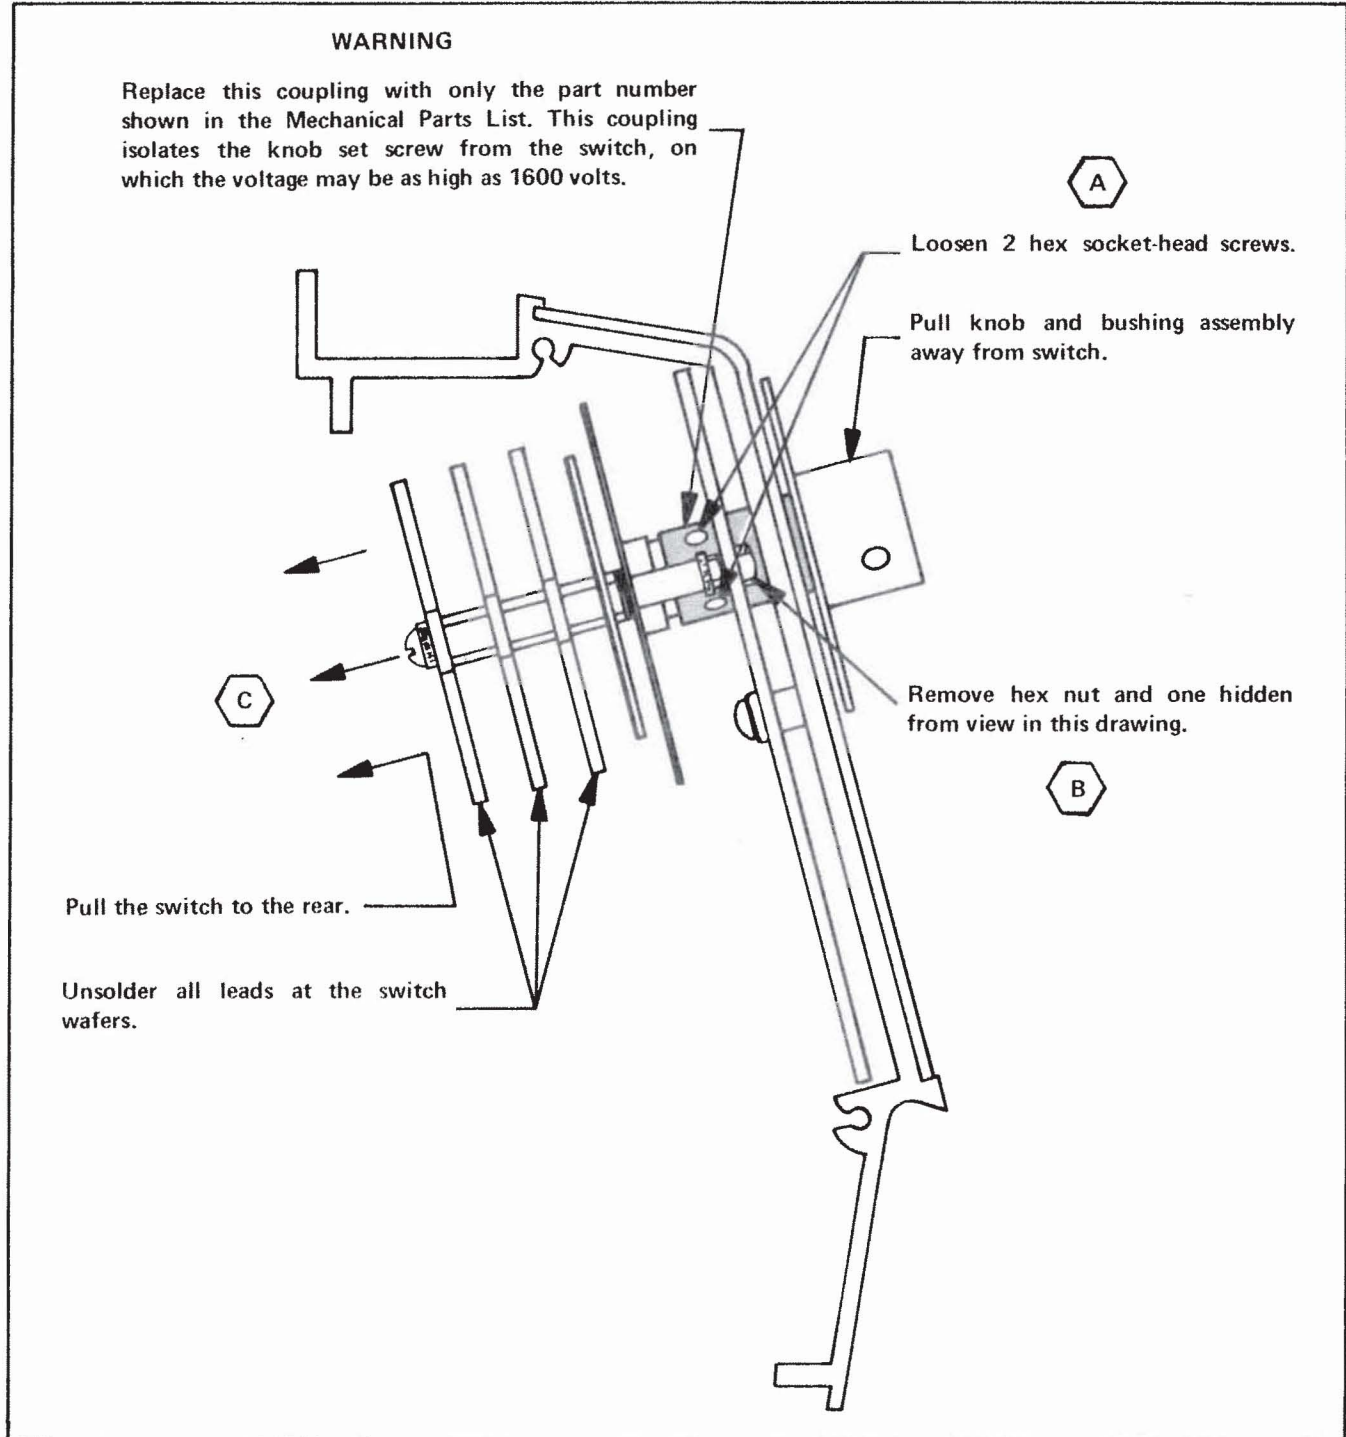

Fig. 4-4. Removal of VERTICAL CURRENT/DIV Switch.
2. Turn the CURRENT/DIV switch to expose one of the two hex socket-head set screws (A in the diagram, Fig. 4-4). Loosen the set screw and turn the CURRENT/DIV knob to make the other set screw accessible.